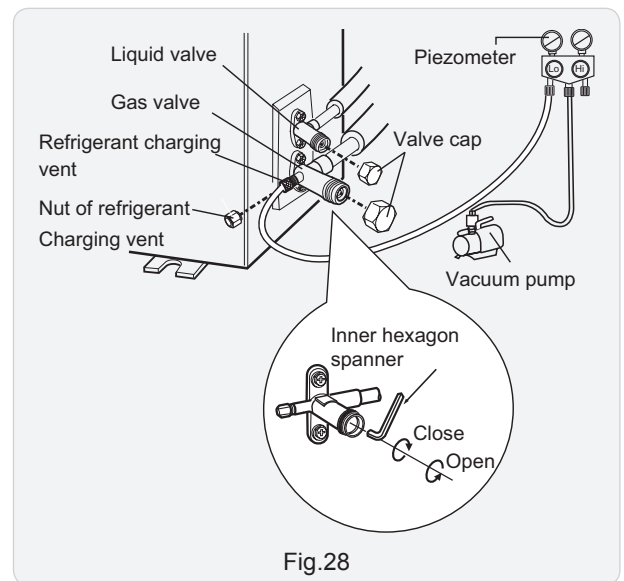

Fig.28
(1) Remove the valve caps on the liquid valve and gas valve and the nut of refrigerant charging vent.
(2) Connect the charging hose of piezometer to the refrigerant charging vent of gas valve and then connect the other charging hose to the vacuum pump.
(3) Open the piezometer completely and operate for 10-15min to check if the pressure of piezometer remains in -0.1MPa.
(4) Close the vacuum pump and maintain this status for 1-2min to check if the pressure of piezometer remains in -0.1MPa. If the pressure decreases, there may be leakage.
(5) Remove the piezometer, open the valve core of liquid valve and gas valve completely with inner hexagon spanner.
(6) Tighten the screw caps of valves and refrigerant charging vent.(As show in Fig.28)
(7) Reinstall the handle.